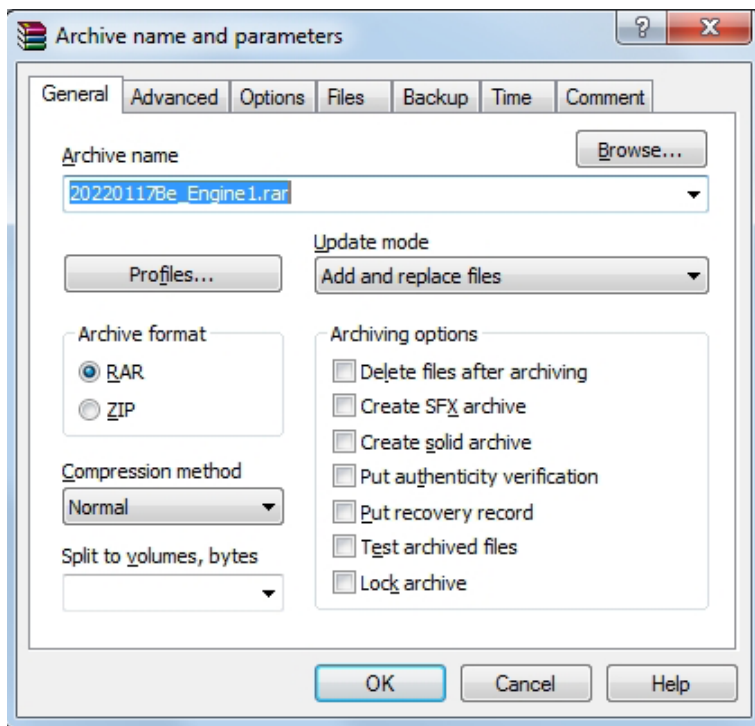

Fig. 6.3 Screenshot “WinRAR” compression software
- 3) Click “OK” (refer to Fig. 6.3.) and the data file *.log will be automatically compressed and a new file *.rar with the same prefix-file name will be created.